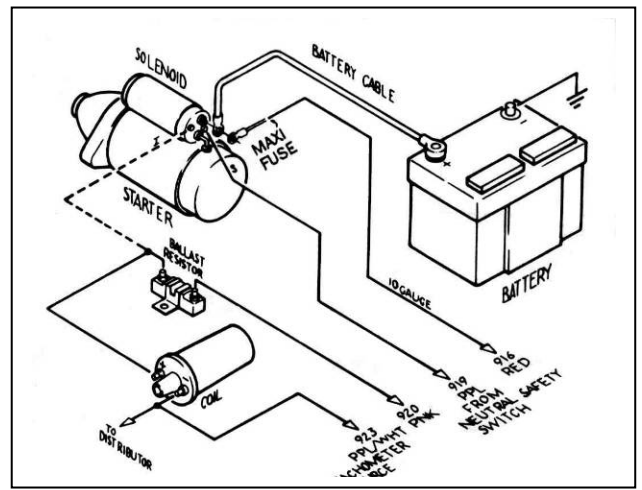

Figure 7-3A GM Ignition (Start-Run) System
- 7.3.6** A 14-gauge wire connected from the Starter Solenoid Ignition (I) terminal to the ignition coil side of the Ballast Resistor is optional. This wire (the dashed line in **Figure 7-3A**) serves as a ballast resistor BYPASS during engine starting. However, if the starter solenoid shorts out, which is not unusual, the engine will stop running and will not restart as long as this wire is connected. You may therefore choose to omit it. If you are not using a Ballast Resistor, leave the Starter Solenoid Ignition (I) terminal unconnected and do not install the bypass wire.